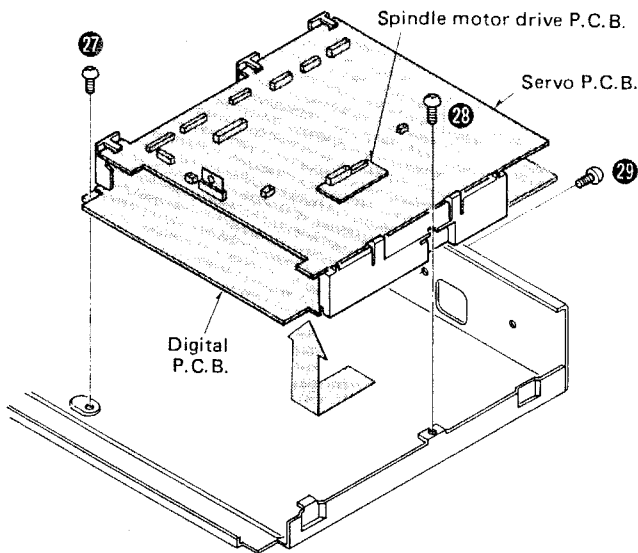

Fig. 7
4. Remove the 3 setscrews [Fig. 7: 27 ~ 29] of P.C.B. holder.
5. Remove the digital P.C.B. in the direction of the arrow. [Fig. 7]